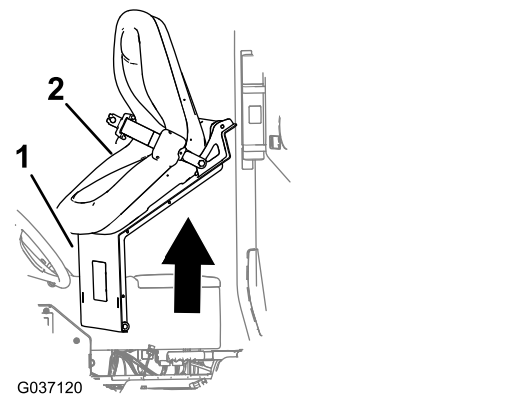

Figure 37
5. Lift the seat and seat plate up and out of the machine (Figure 37).